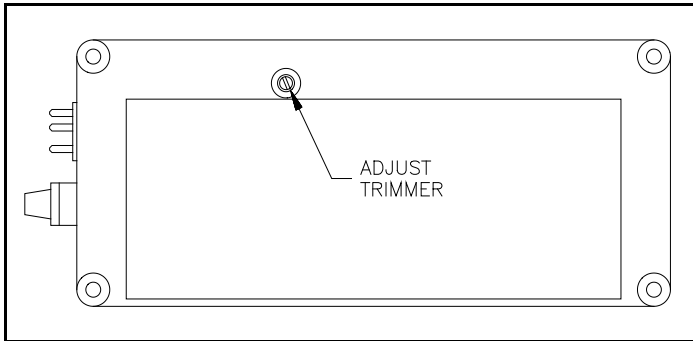

Figure 5. Bottom of Foot Control
- 6.1 The slow speed trimmer is adjusted with a small screwdriver through the hole in the base plate. See Figure 5. Place the foot control upside down on a bench. Depress the pedal slowly until the motor just starts rotating. Hold the pedal in this position and turn the trimmer to select the desired speed.